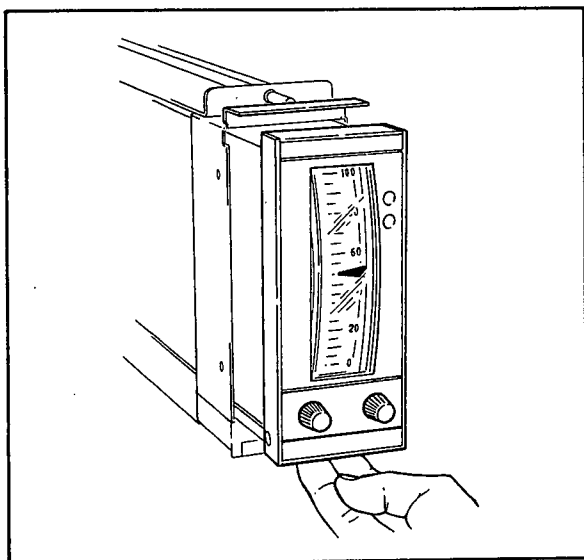

Figure 5-3. Pulling the Instrument Chassis (1).
- (1) Push up the stopper spring at the lower front of the instrument chassis. Pull the instrument chassis until it stops at the intermediate stopper (Figure 5-3).